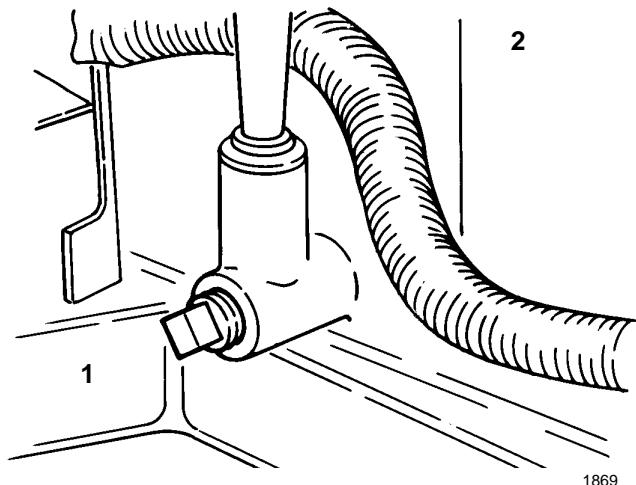

Figure 27
4. Place a pan below the oil dipstick/fill tube and remove the drain plug (Fig. 27).